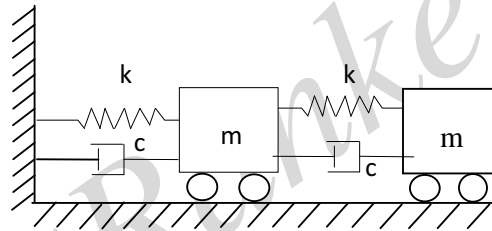

Fig. 2
7. For the damped two degree of freedom system shown in Fig. 2, determine the vibratory response of the masses for the initial conditions:  $x_1 = 1.5$  and  $x_2 = 1$  at time  $t = 0$  and  $\dot{x}_1 = \dot{x}_2 = 0$  at time  $t = 0$ . Use modal analysis with proportional damping. [16]